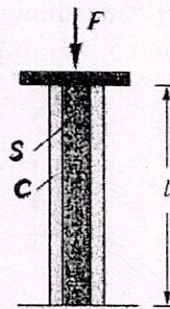

Figure 1
**Q.2** A solid circular steel cylinder (cross-sectional area  $A_S$ , modulus of elasticity  $E_S$ , and length  $L$ ) is placed inside a copper tube (cross-sectional area  $A_C$ , modulus of elasticity  $E_C$ , and length  $L$ ), see Figure 1. The assembly is compressed between a rigid plate and the rigid floor by a force  $F$ . Determine the normal stresses in the cylinder and the tube. Calculate the shortening of the assembly.